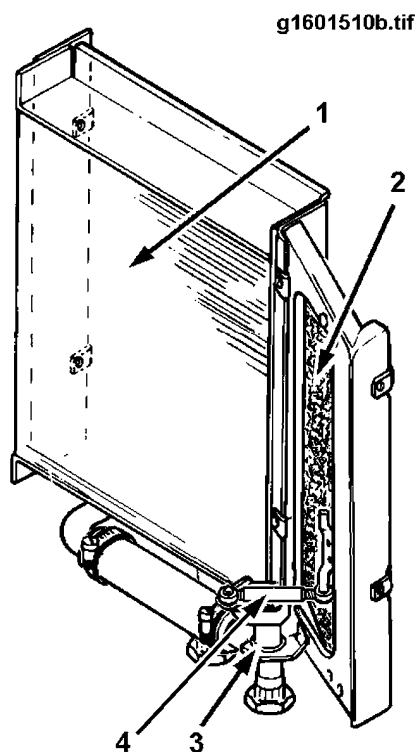

Figure 12 Heater Core and Blend Door Assembly
The water valve should be adjusted so that the valve is full on when the Blend-Air door is closed with about 25% compression of the door seal (Figure 12).
2. Lift water valve control link off the water valve control lever (Figure 12).